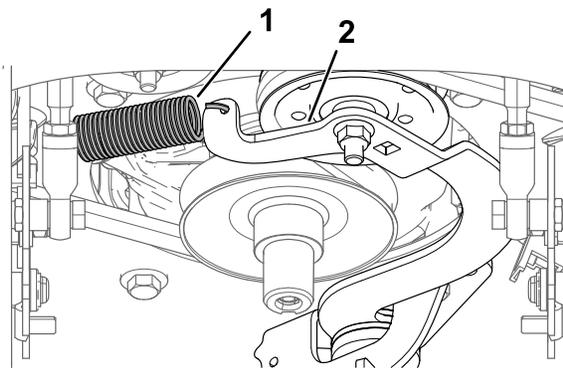

Figure 58
- 6. Insert a drive ratchet in the square hole of the idler arm to release the belt tension (Figure 58).
- 10. Install the spring to the spring anchor. Use the drive ratchet to apply tension to the spring to allow the belt to pass over the lip of the idler pulley (Figure 58).